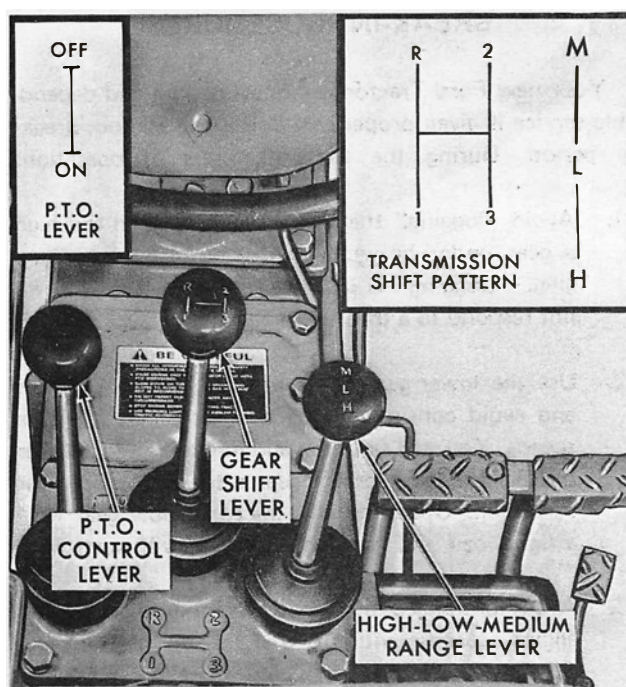

Figure 9
The transmission operates through the use of a clutch pedal, a gear shift lever, and a high medium-low range lever. Figure 9 illustrates the pedal and levers involved. Ground speeds for the various gear ratios can be found on page 35.
The transmission P.T.O. is controlled through a lever shown in Figure 9. The transmission P.T.O. can be engaged, operated, and disengaged whether or not the tractor is in motion, provided that it is operated as described under "POWER TAKE-OFF OPERATION"
- Disengage the P.T.O. with the P.T.O. control lever, Figure 9.
- Depress the clutch pedal completely and move the transmission gearshift lever to the neutral (N) position.
3. With the transmission in neutral, depress the clutch pedal completely, then engage the P.T.O. by moving the P.T.O. control lever, Figure 9, rearward.